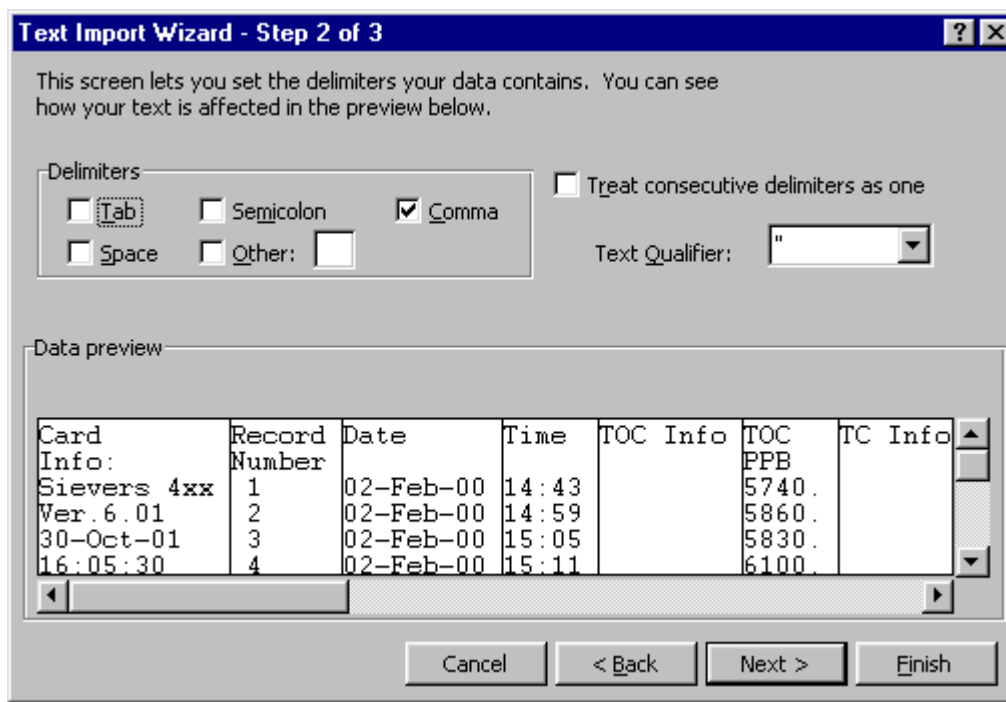

Figure 52: Step 2 of the MS Excel Text Import Wizard
7. Make sure the **Comma** check box is selected, to identify the file as being comma-delimited (Figure 52).